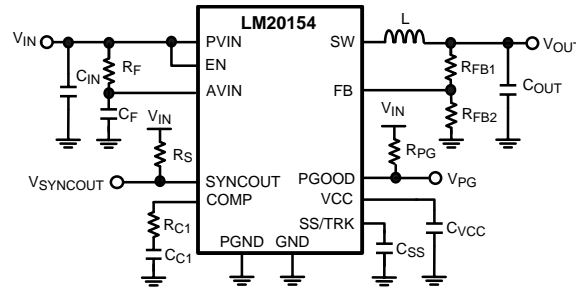

Figure 27. Typical Application Circuit
The LM20154 switching regulator features all of the functions necessary to implement an efficient low voltage buck regulator using a minimum number of external components. This easy to use regulator features two integrated switches and is capable of supplying up to 4A of continuous output current. The regulator utilizes peak current mode control with nonlinear slope compensation to optimize stability and transient response over the entire output voltage range. Peak current mode control also provides inherent line feed-forward, cycle-by-cycle current limiting and easy loop compensation. The fixed 1 MHz operating frequency minimizes the inductor size while still achieving efficiencies up to 96%. The precision internal voltage reference allows the output to be set as low as 0.8V. Fault protection features include: current limiting, thermal shutdown, over voltage protection, and shutdown capability. The device is available in the HTSSOP package featuring an exposed pad to aid thermal dissipation. The LM20154 can be used in numerous applications to efficiently step-down from a 5V or 3.3V bus. The typical application circuit for the LM20154 is shown in Figure 27 in the design guide.
This section walks the designer through the steps necessary to select the external components to build a fully functional power supply. As with any DC-DC converter numerous trade-offs are possible to optimize the design for efficiency, size, or performance. These will be taken into account and highlighted throughout this discussion. To facilitate component selection discussions the circuit shown in Figure 27 below may be used as a reference. Unless otherwise indicated all formulas assume units of amps (A) for current, farads (F) for capacitance, henries (H) for inductance and volts (V) for voltages.
To prevent high frequency noise spikes from disturbing the sensitive analog circuitry connected to the AVIN and AGND pins, a high frequency RC filter is required between PVIN and AVIN. These components are shown in Figure 27 as C_F and R_F . The required value for R_F is 1Ω. C_F must be used. Recommended value of C_F is 1.0 μF. The filter capacitor, C_F should be placed as close to the IC as possible with a direct connection from AVIN to AGND. A good quality X5R or X7R ceramic capacitor should be used for C_F .